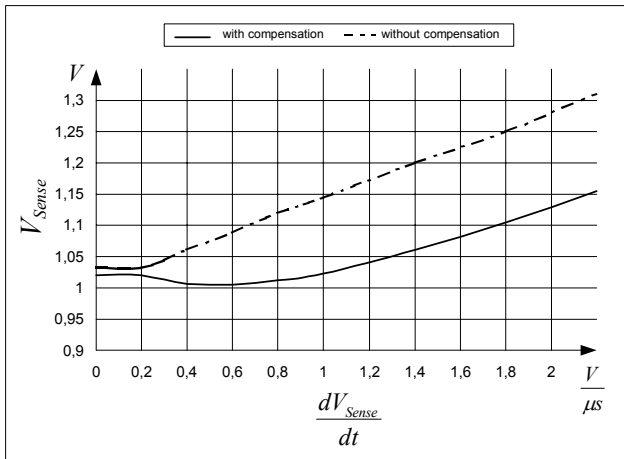

Figure 13 Overcurrent Shutdown
within a wide range. Current Limiting is now possible in a very accurate way (see Figure 13).
E.g.  $I_{peak} = 0.5A$  with  $R_{Sense} = 2$ . Without Propagation Delay Compensation the current sense threshold is set to a static voltage level  $V_{csth} = 1V$ . A current ramp of  $dI/dt = 0.4A/\mu s$ , that means  $dV_{Sense}/dt = 0.8V/\mu s$ , and a propagation delay time of i.e.  $t_{Propagation\ Delay} = 180ns$  leads then to an  $I_{peak}$  overshoot of 14.4%. By means of propagation delay compensation the overshoot is only about 2% (see Figure 13).